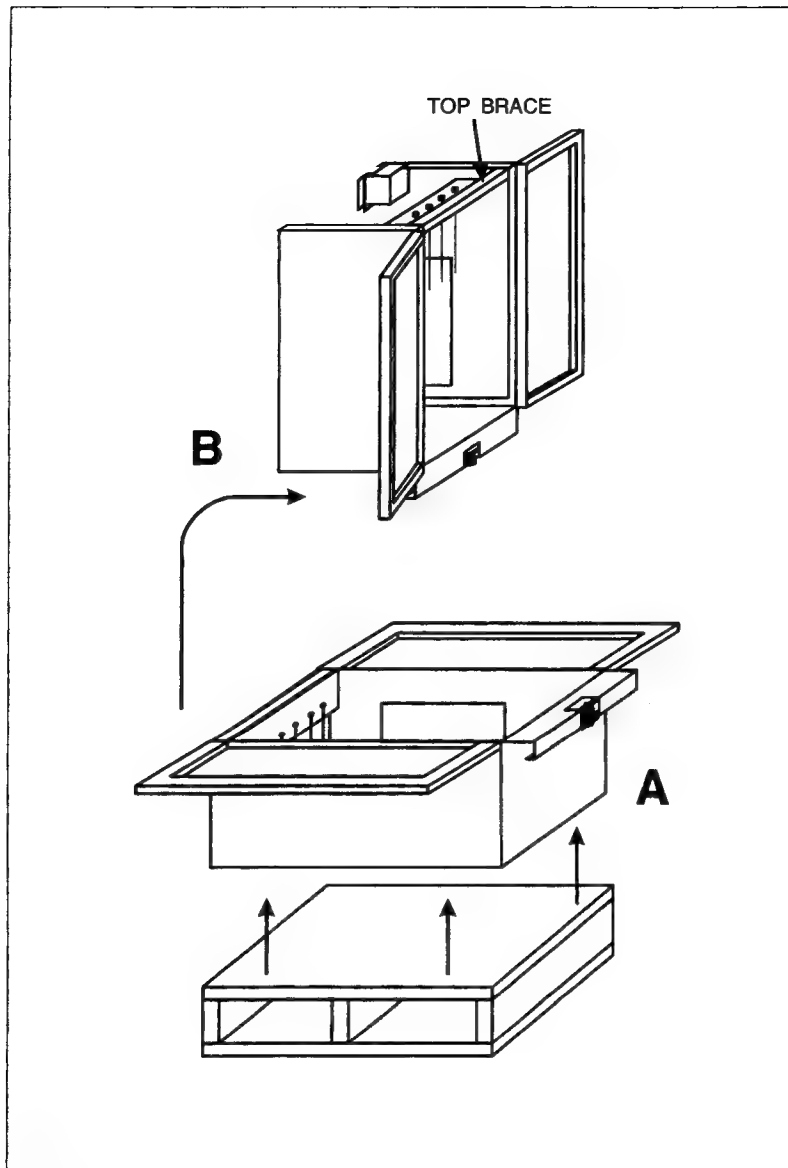

Figure 2-28. Stand up the Main Weldment Assembly. Step f
- h. Stand up the Weldment by pulling it up by its top brace (figure 2-28).